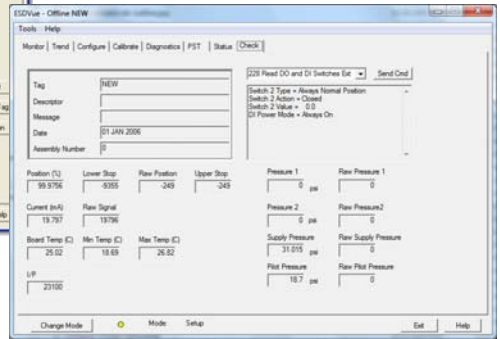

Figure 10 ValVue ESD for Checking Magnet Position
4. Select the installed ESD PST Controller from the list of *Connected Devices* as shown in Figure 10 and click **Connect**.
6. Read *Raw Position Data* on the *Check* screen (Figure 10).